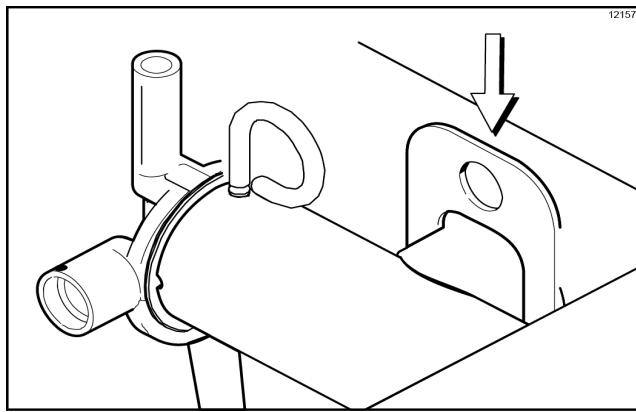

Figure-163
3. Install the pump assembly at the rear of the mix hopper. To position the pump on the drive hub, align the drive hole in the piston with the drive crank of the driveshaft. Secure the pump in place by slipping the pump clip over the collar of the pump, making sure the clip fits into the grooves in the collar. (See Figure-163.)